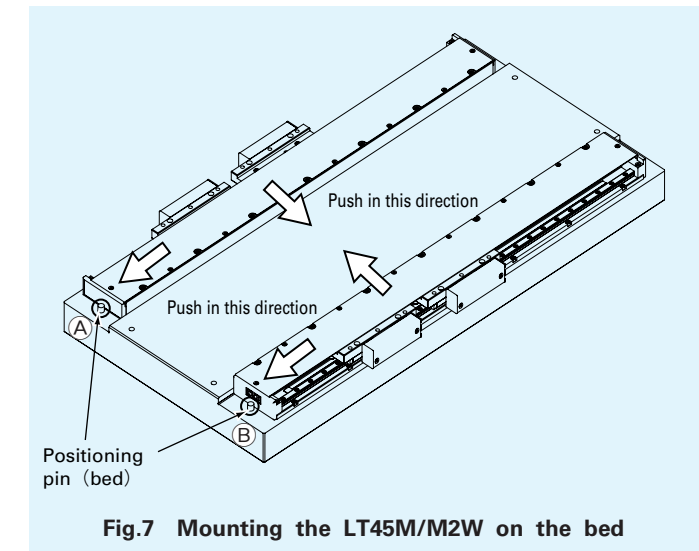
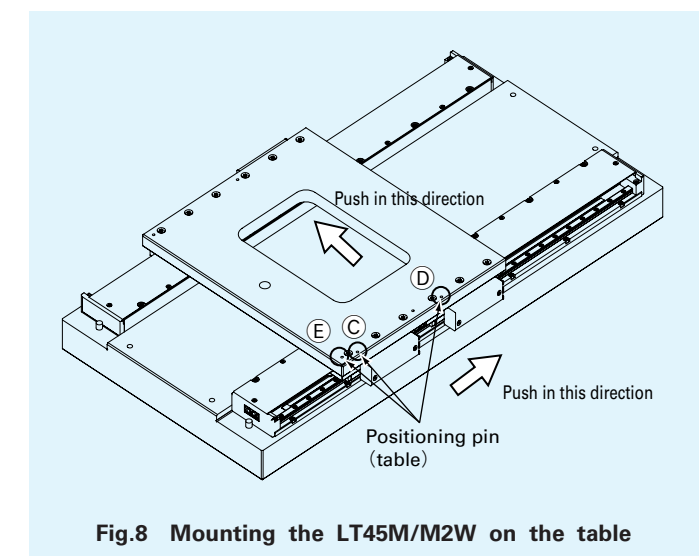

Fig.7 Mounting the LT45M/M2W on the bed
Fig.8 Mounting the LT45M/M2W on the table
- ②Cleaning the mounting surfaces and the reference mounting surfaces
- ③Securing the linear motor table to the bed
- Correctly match Linear Motor Table LT...M with the reference mounting surface and positioning pins of the base and secure it to the base. (Fig.7)
- ④Securing the linear motor table to the table
- Correctly match the reference mounting surface of Linear Motor Table LT...M module to the positioning pin (C)(D) and temporarily tighten the mounting bolts. (Fig.8)
- Tighten the mounting bolts of one module while pushing the reference mounting surface of the module to the positioning pin (E) that is the mounting reference of the table.